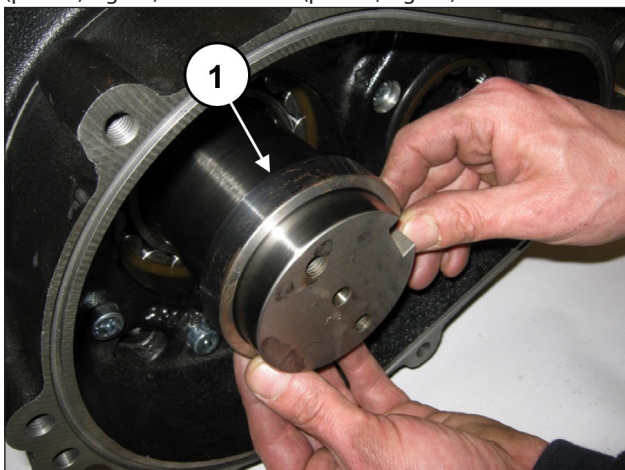
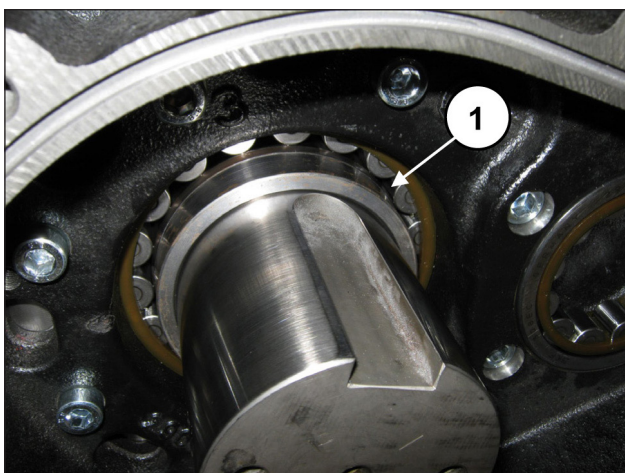

Fig. 74
Fig. 75
Insert the ring gear support ring in the crankshaft shank (pos. ①, Fig. 74) to end stroke (pos. ②, Fig. 75).